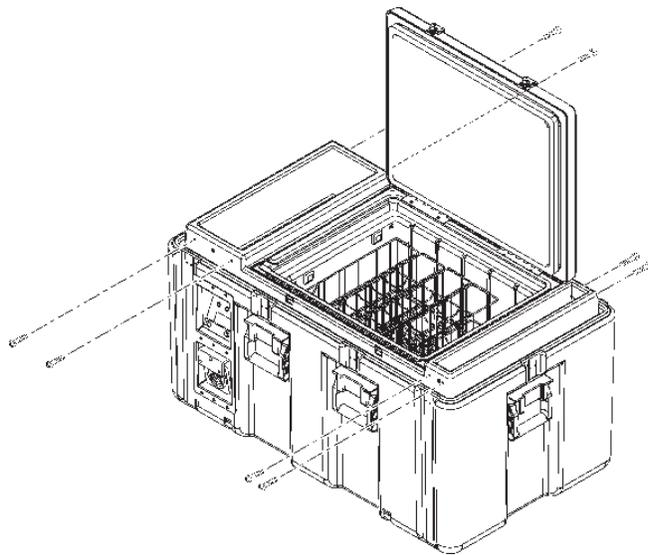

Figure 8. AX56L Battery Access
2. Remove eight screws that hold cover panel in place and remove cover (Figure 8).